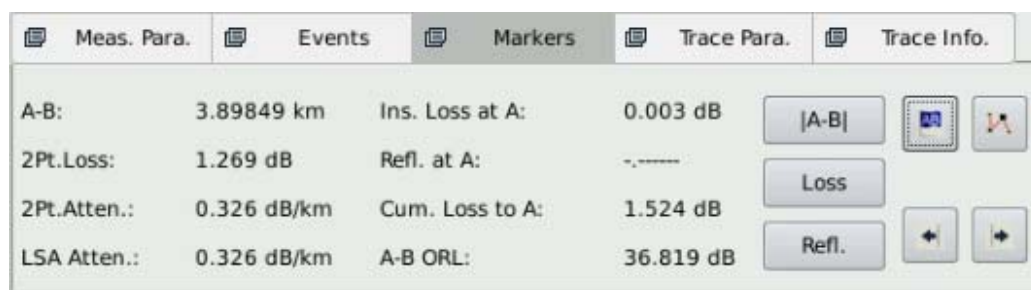

Fig. 12.5 View attenuation
4. Check 2Pt. Atten. (2-point attenuation) and LSA Atten. (LSA attenuation) values, as shown in Fig. 12.5.